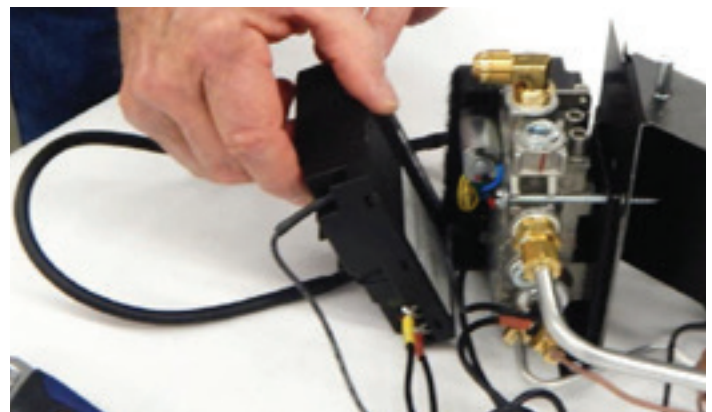

Figure 4
5. Separate the transmitter from the valve by pulling apart the hook and loop fasteners. See Figure 4.